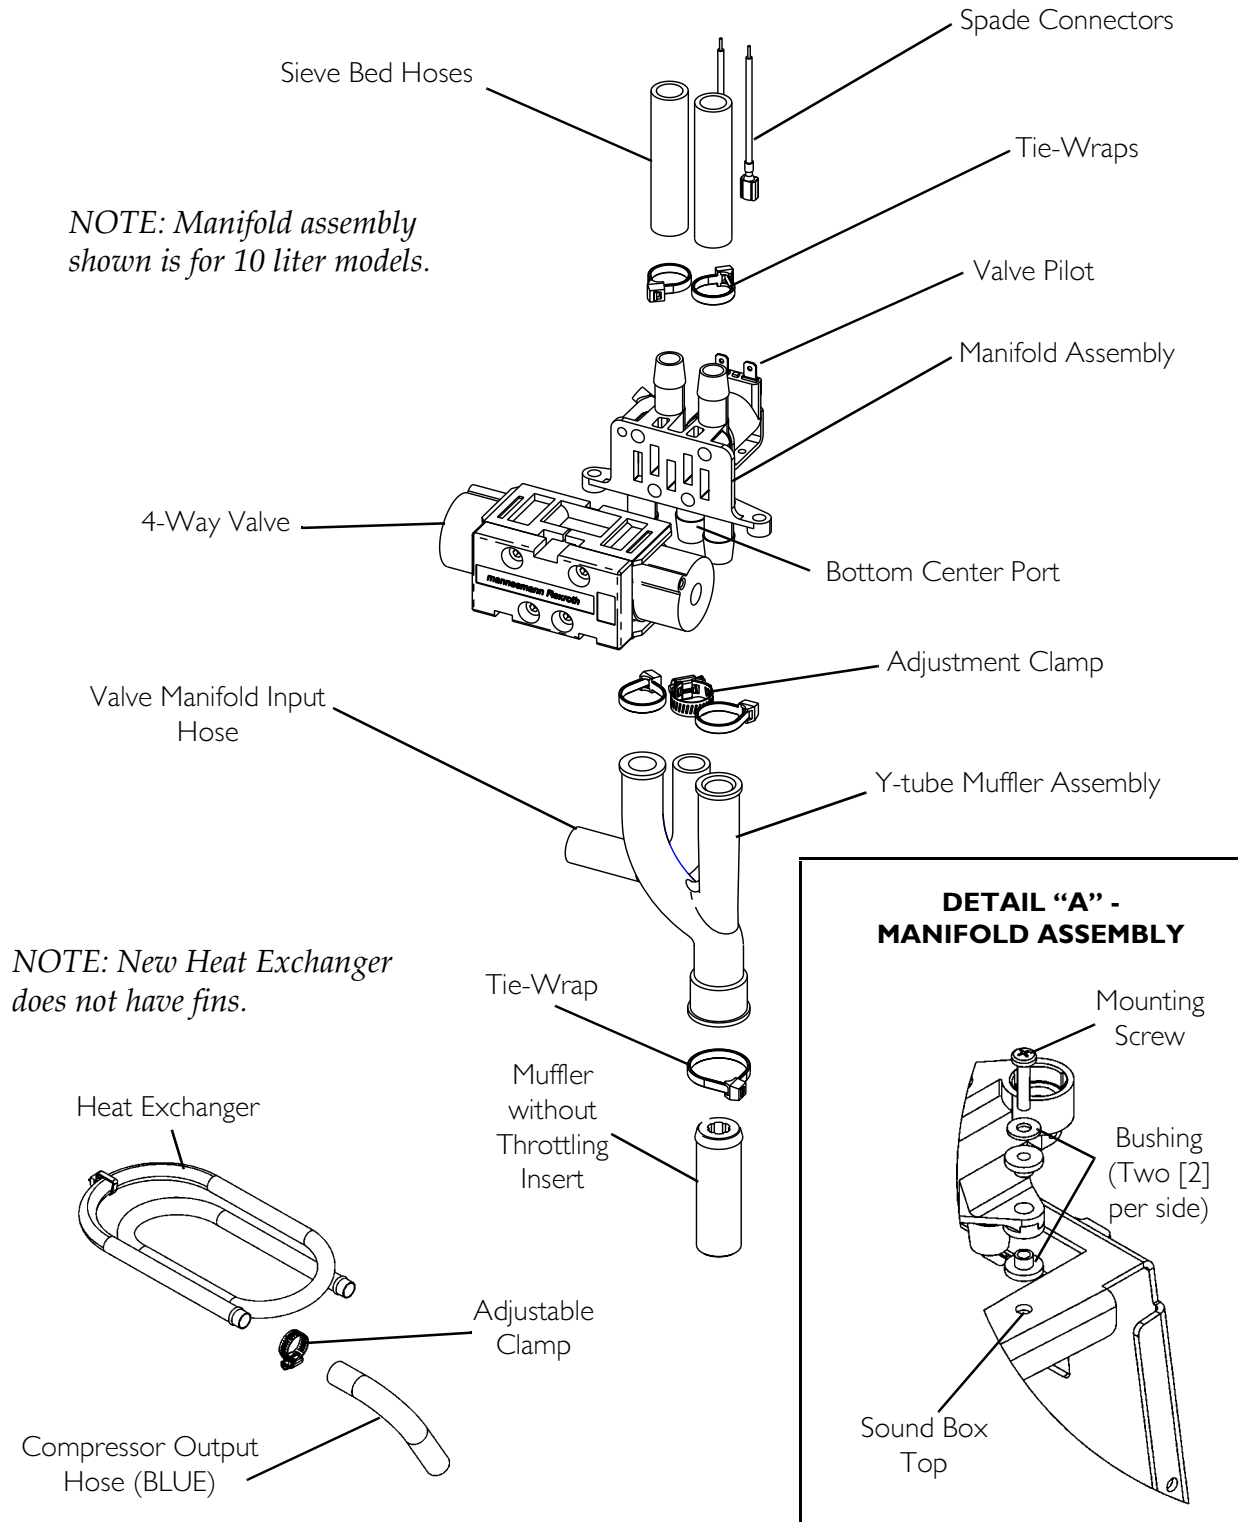
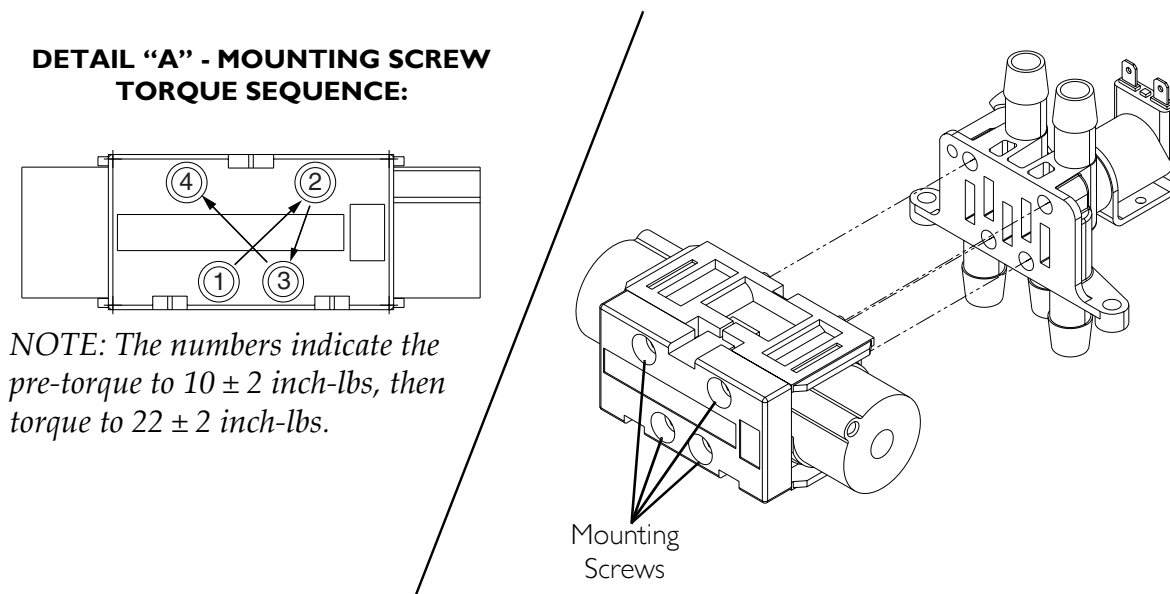

FIGURE 20.3 Replacing Manifold Assembly (Units Manufactured after 7/24/03)
FIGURE 20.4 Replacing Manifold Assembly (Units Manufactured after 7/24/03)
NOTE: For this procedure, refer to FIGURE 20.3 on page 78 and FIGURE 20.4 on page 80.
NOTE: Platinum XL and 10 Units manufactured after 7/24/03 are equipped with Y-tube muffler assembly as shown in FIGURE 20.3. This procedure applies to Platinum 5 units manufactured after 7/24/03.
9. Remove the two mounting screws, washers (one per side) and bushings (two per side) securing the 4-way valve/manifold assembly to top of sound box (Detail "A" of FIGURE 20.3).
- D. Pre-torque the mounting screws to 10 ± 2 inch-lbs using the torque sequence (FIGURE 20.4).